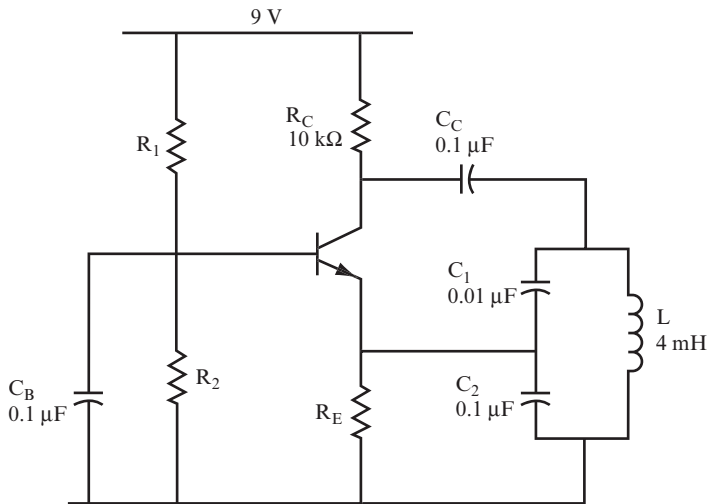

FIGURE 9.37
7. The circuit is shown in Figure 9.37.
32 Figure 9.37 shows the circuit designed in problem 31.